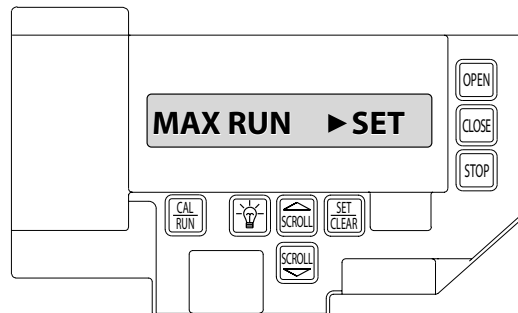

Fig. 10
- 2) Press SCROLL (up or down) until display reads "MAX RUN TMR > SET." Fig. 10